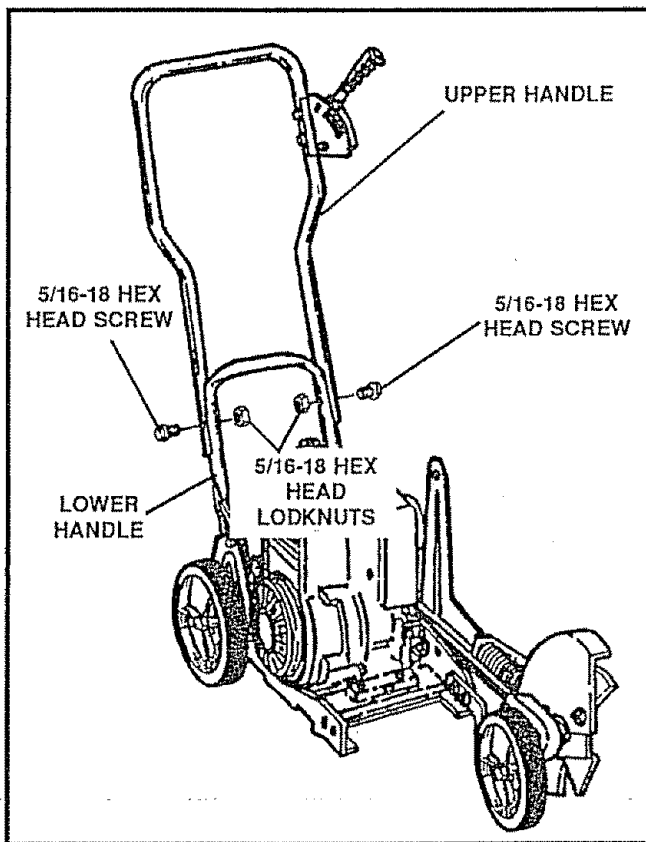

FIG. 3B
- Place the upper handle on the lower handle (See Fig. 3B) and secure in place with two (2) 5/16-18 x 1-1/2 inch hex head screws and two (2) 5/16-18 head head locknuts (found in parts bag).